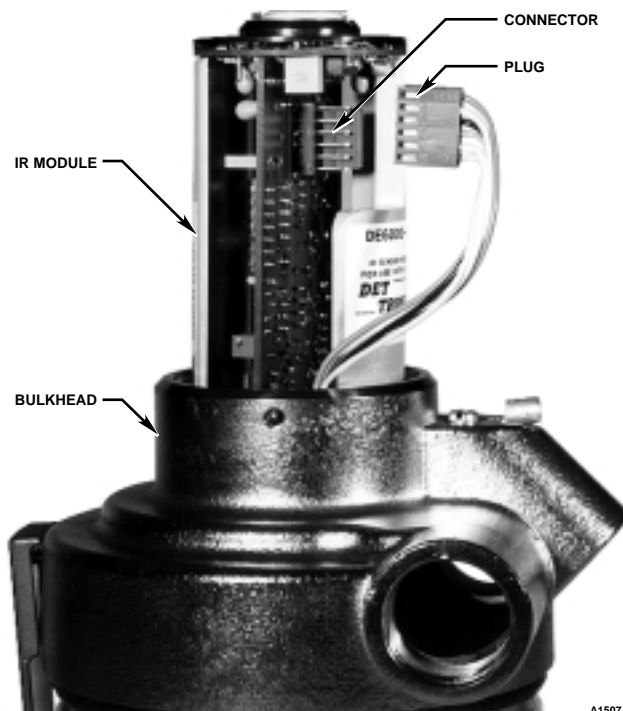

Figure 12—IR Module with Connector (Shown Disconnected)
3. Remove the sensor housing (see Figure 5). Unplug the connector from the top of the IR module (Figure 12) and pull the sensor module away from the bulkhead.